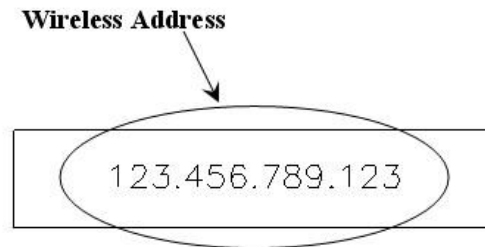

Figure 4-1 – Wireless Address
- The wireless address for this unit. See Figure 4-1. This label is located on the inside front cover.